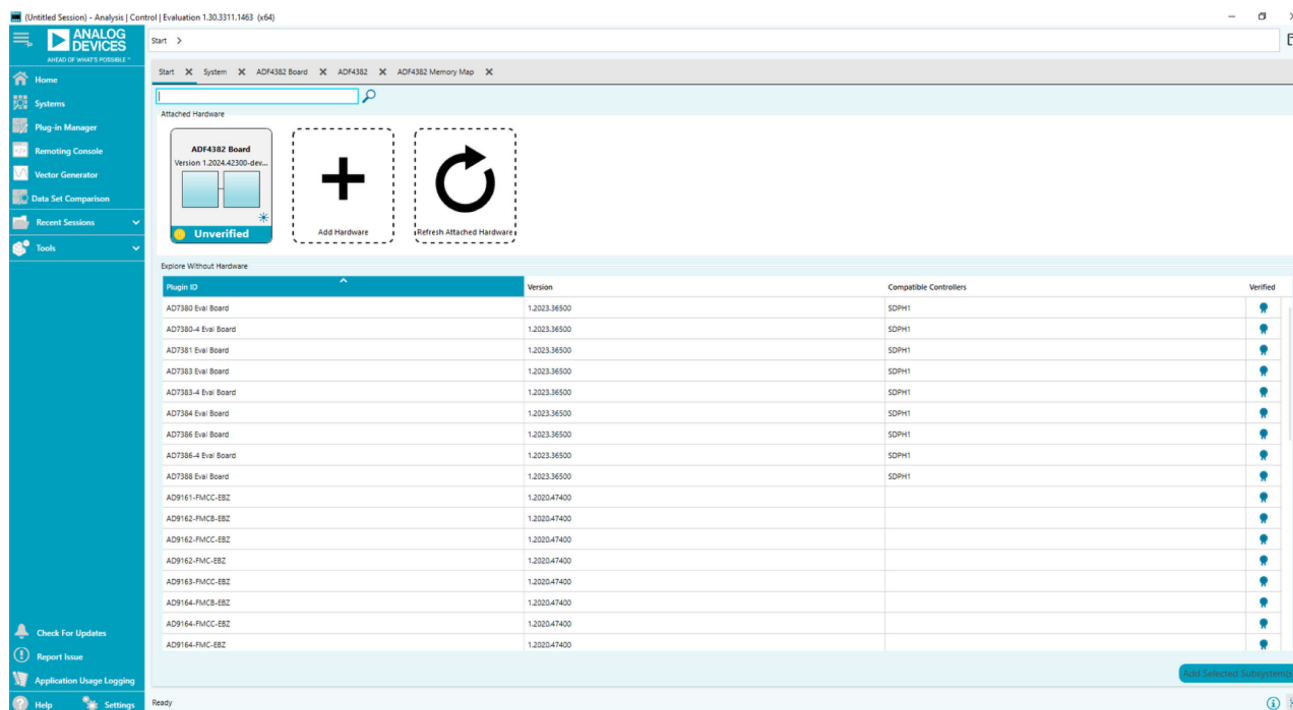

Figure 3. ACE Main Window, Attached Hardware (ADF4382 Evaluation Board)
1. Launch the **ACE Software**. With the **SDP-S** controller board connected to the EV-ADF4382SD1Z, the **Attached Hardware** section appears in the GUI, as shown in Figure 3.